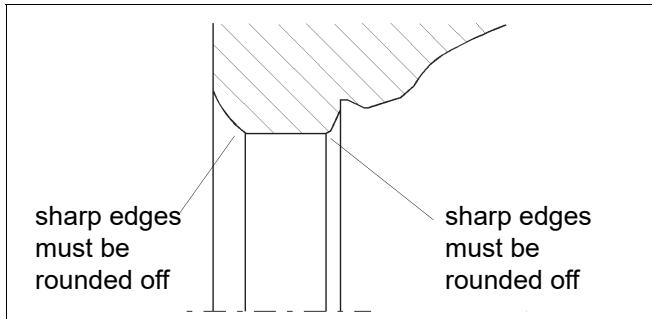

Fig. 15 Rounding the sharp edges
- Clean the flow port that houses the seat. Remove any burrs. Round off the edges using a fine abrasive paper and clean the flow port carefully, see Fig. 15.